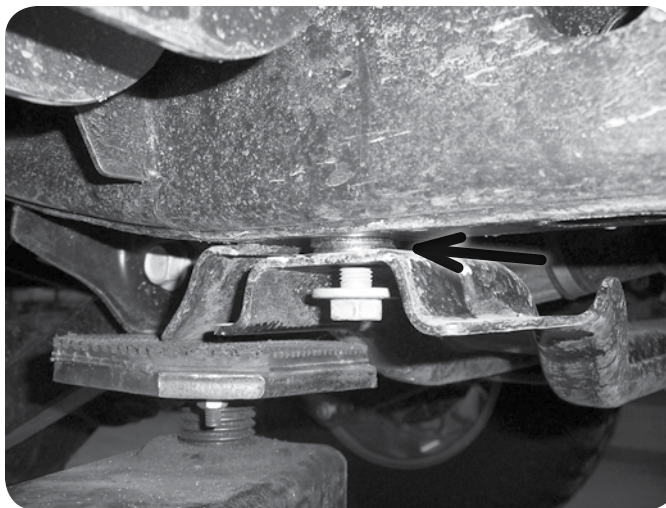

Figure 7
25. Reattach the factory transmission skid plate to the transmission crossmember and frame rails with the factory hardware. At each frame rail mount, position two 9/16" washers between the frame and the skid plate before installing the mounting bolts (**Figure 7**). This will ensure adequate driveshaft to skid plate clearance. Torque bolts to 55 ft-lbs.